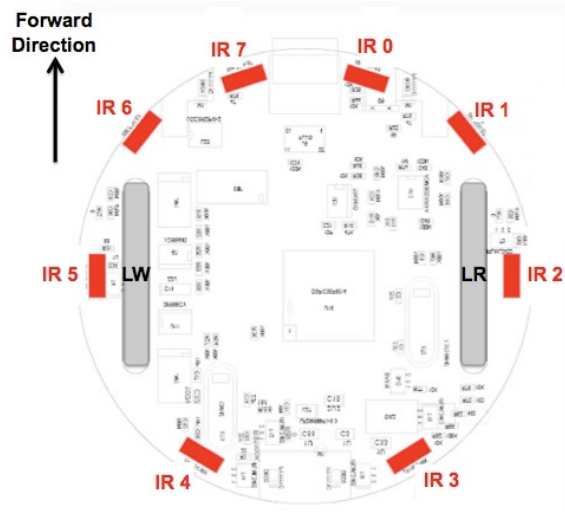

Figure 5: e-puck proximity sensors.
13. **(Q):** What is the influence of the parameter, say,  $\alpha_{\text{left},0}$  on the speed of the left wheel? *Hint: explain what happens if  $\alpha_{\text{left},0}$  is large or small when an obstacle is detected by the proximity sensor  $\text{ps}_0$  (recall Figure 5).*
14. **(I):** Modify the parameters of the controller *e-puck\_braitenberg.c* so that you achieve these behaviors (see note in code and refer to Fig. 5 for sensor placement):